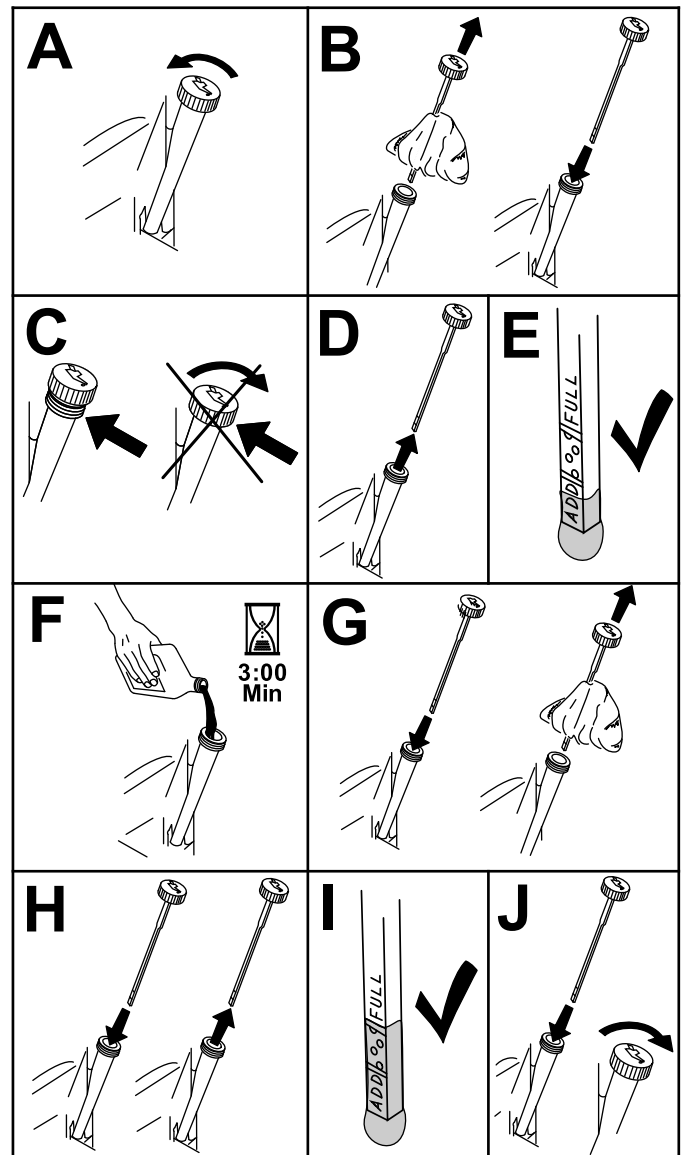

Figure 38
3. Check the engine-oil level as shown in (Figure 38).